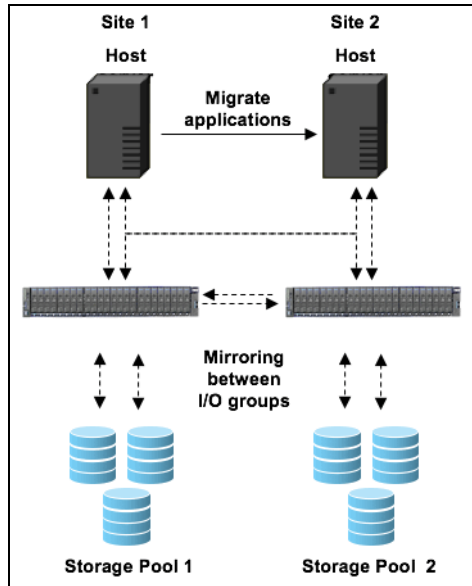

Figure 5-8 Overall HyperSwap diagram
HyperSwap is a system topology that enables high availability (HA) and disaster recovery (DR) (HADR) between I/O groups at different locations. Before you configure HyperSwap volumes, the system topology must be configured for HyperSwap and sites must be defined. Figure 5-8 on page 338 shows an overall view of HyperSwap that is configured with two sites.